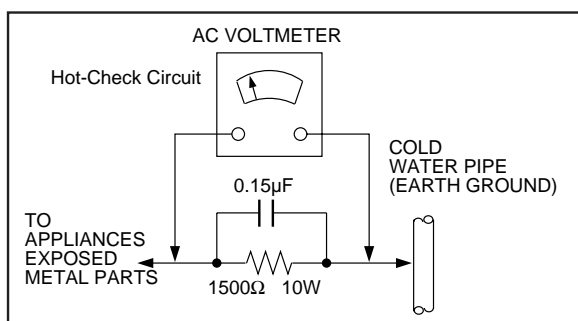

Figure1
LEAKAGE CURRENT HOT CHECK (See Figure 1)
2. Connect a $1.5k\Omega$, $10W$ resistor, in parallel with a $0.15\mu F$ capacitor, between each exposed metallic part on the set and a good earth ground such as a water pipe, as shown in Figure1.